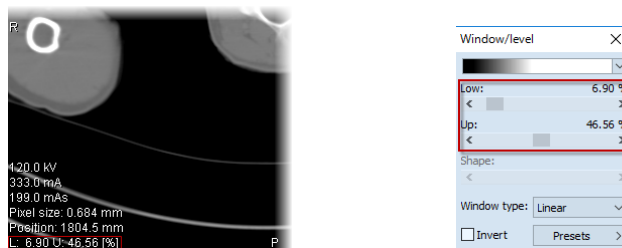

Figure 152 – Window/level tool and a view with the LU[%] adjustment type
- **Low/Up [%]** – the Low value defines the lower (start) limit and the Up value defines the upper (end) limit in percentage of the image data values displayed in the view (see Figure 152).
To change the current adjustment method, select the required method in the **Adjustment type** combo box on the **Modality** tab of the **Options** dialog (see 4.2 Modality options). For the specified modality the window/level information string in the views (the view texts) as well as in the **Window/level** tool is formatted according to this option (see Figure 152).